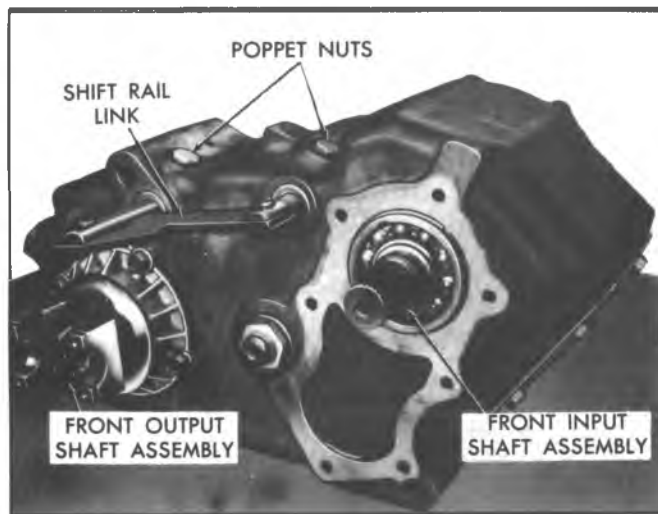

Fig. 7E-2R--Front View of Transfer Case
4. Tap on output shaft with a soft hammer (Fig. 7E-3R) and remove shaft, gear assembly, and rear bearing retainer from case.
5. Using large snap ring picks, such as J-23432-1, remove the gear retaining ring from the shaft (Fig. 7E-5R) and discard.